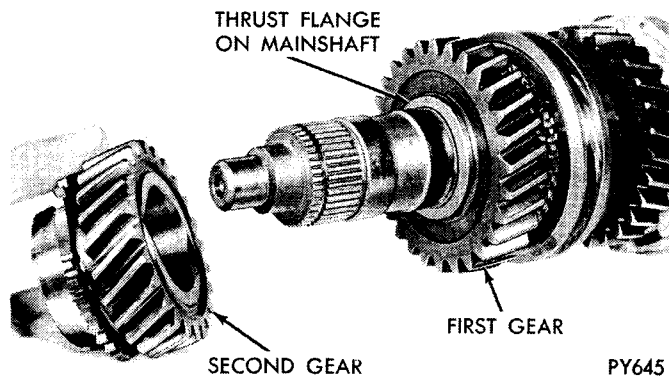

Fig. 17—Second Gear—Removal or Installation
(3) Remove 2nd gear from mainshaft (Fig. 17).
(21) Place second gear over front of mainshaft with thrust surface against flange (Fig. 17).